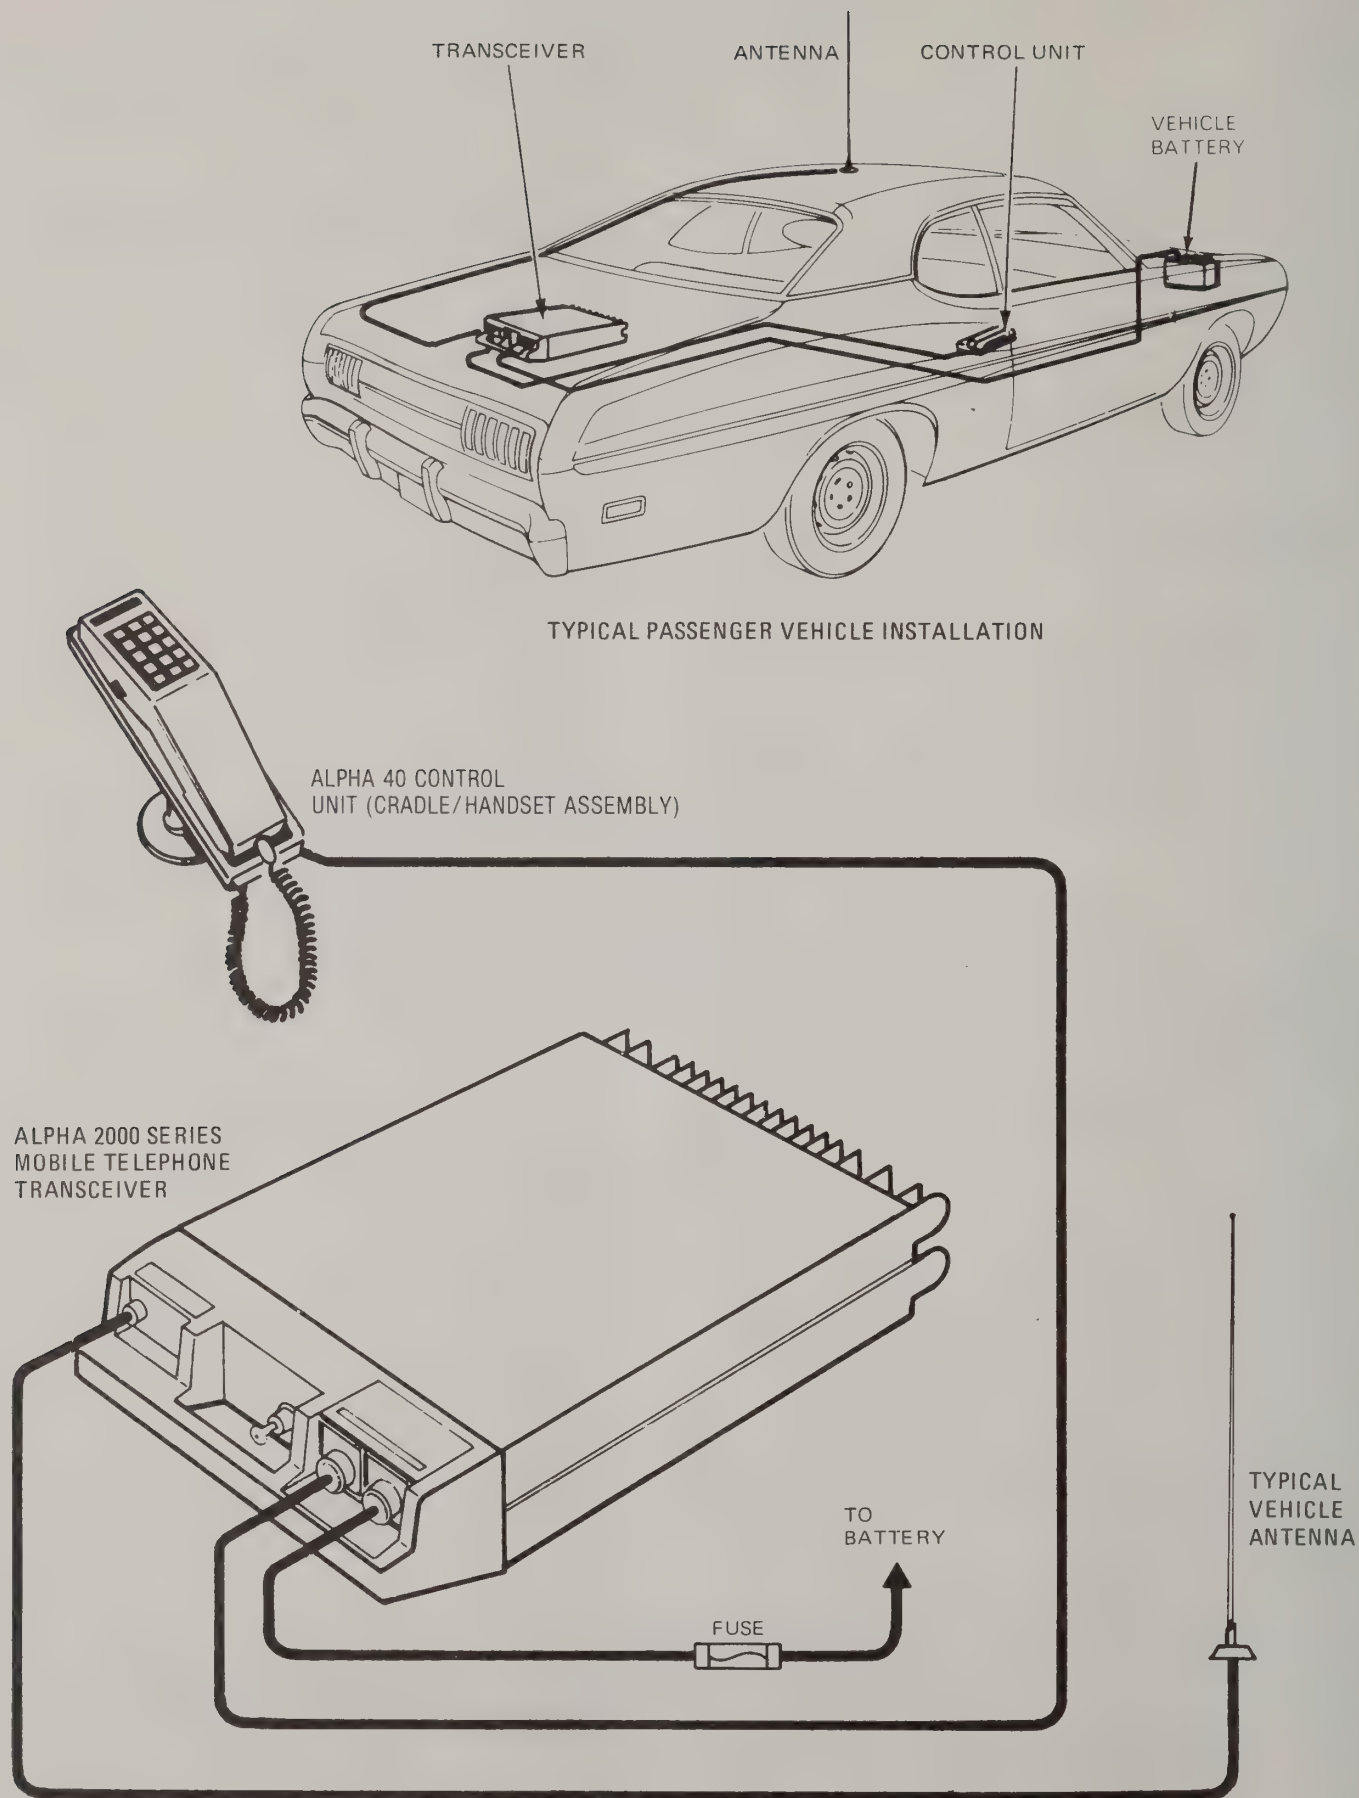
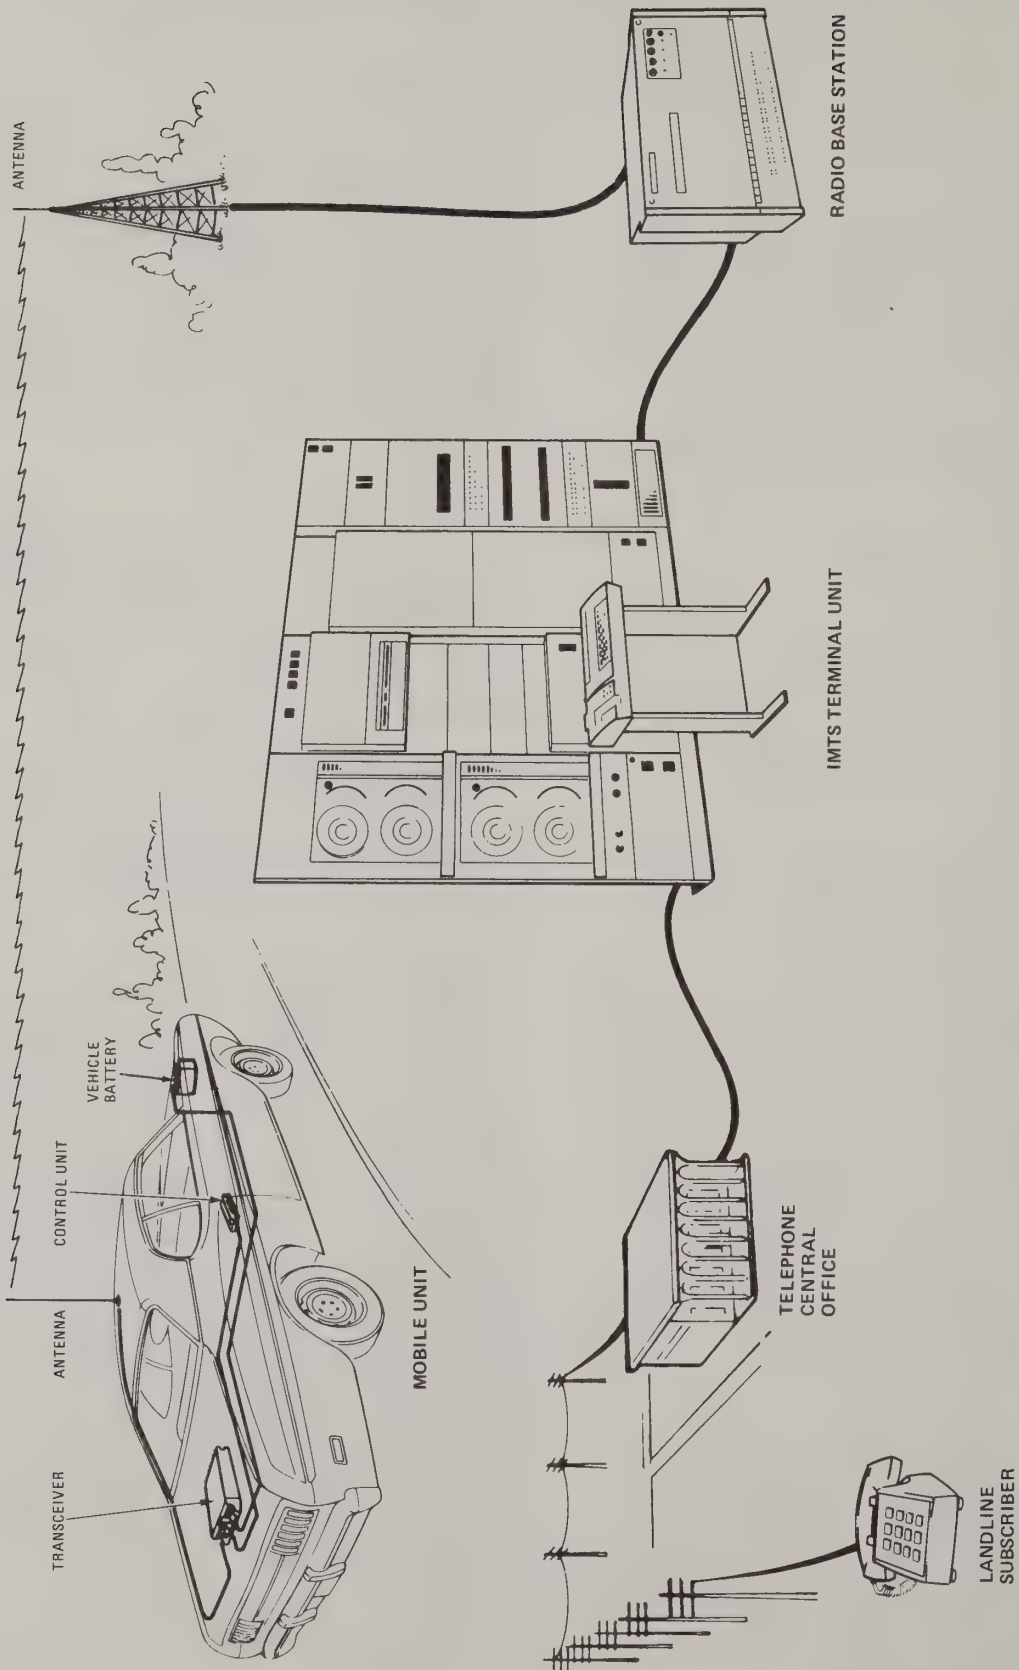

Figure 1-1. Typical Alpha 2000 Series UHF/VHF Mobile Telephone System Setup
Figure 1-2. IMTS System
1.02 The Transceiver is readily installed in virtually any vehicle due to its compact size, configuration and light weight (refer to figure 1-1). Figure 1-2 illustrates operation in a typical IMTS system. Electrical connections to the Transceiver are made through three front-panel mounted connectors (power cable, control cable, and antenna).